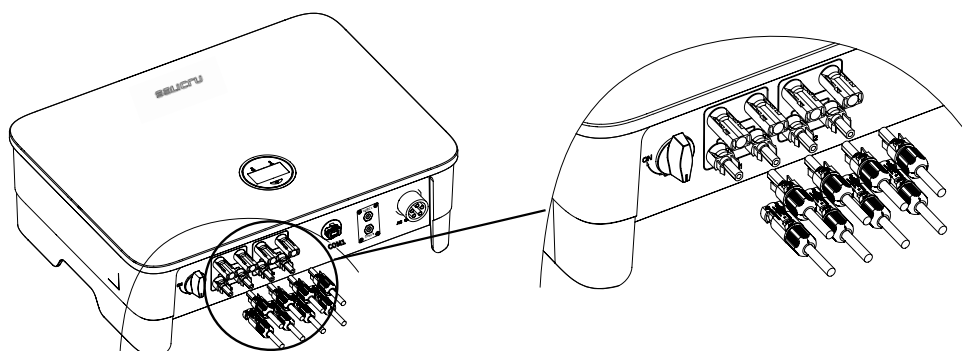
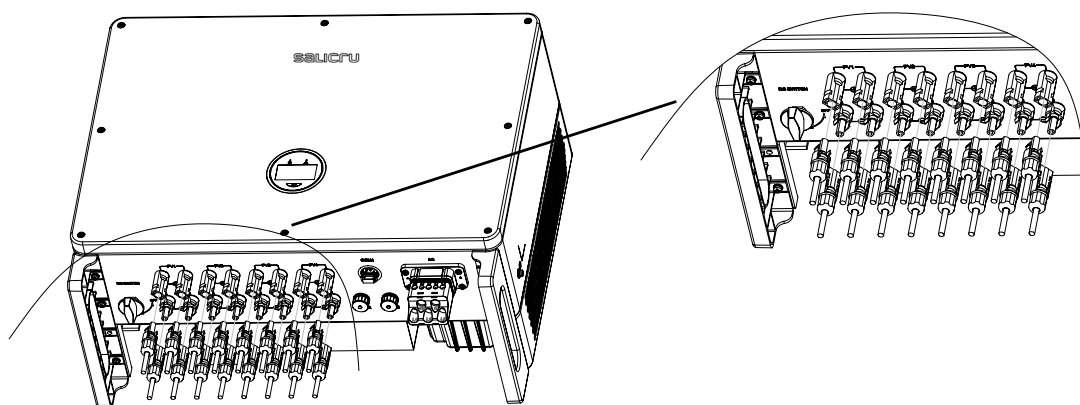
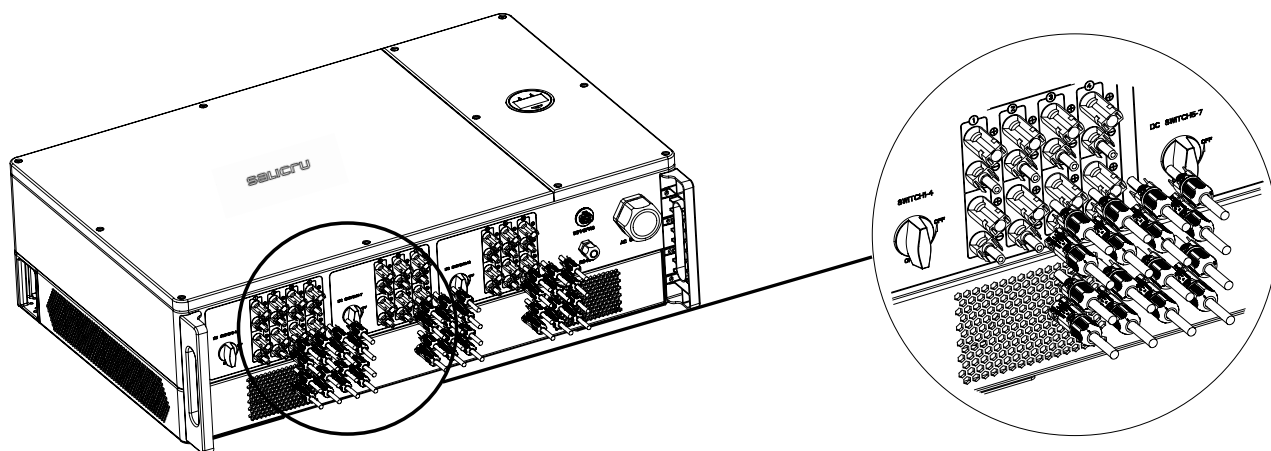

Fig. 30. Connecting the DC input terminals of units with 2 MPPTs.
Fig. 31. Connecting the DC input terminals of units with 4 MPPTs.
Fig. 32. Units with 10 MPPTs.
4. Insert the positive and negative connectors into the respective DC input terminals of the inverter. If the terminals are properly connected, they will make a clicking sound, as shown in Fig. 30, Fig. 31 and Fig. 32: